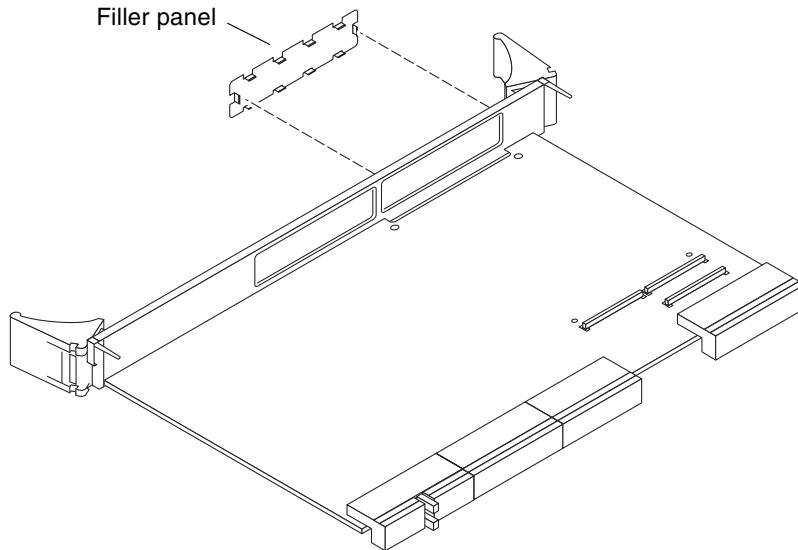

FIGURE 2-4 Removing the PMC Filler Panel
4. If the PMC has a connector for cabling, remove the Netra CP2300 board's filler panel (FIGURE 2-4).